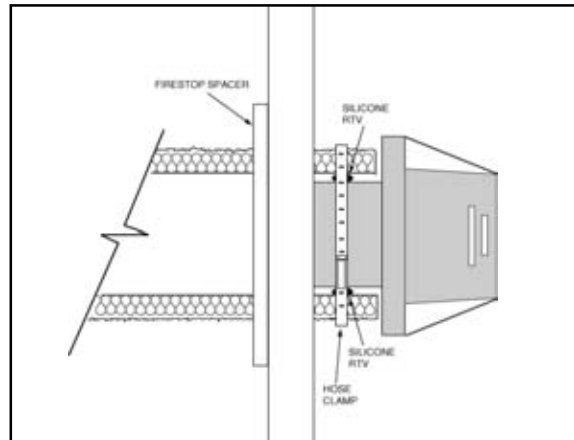
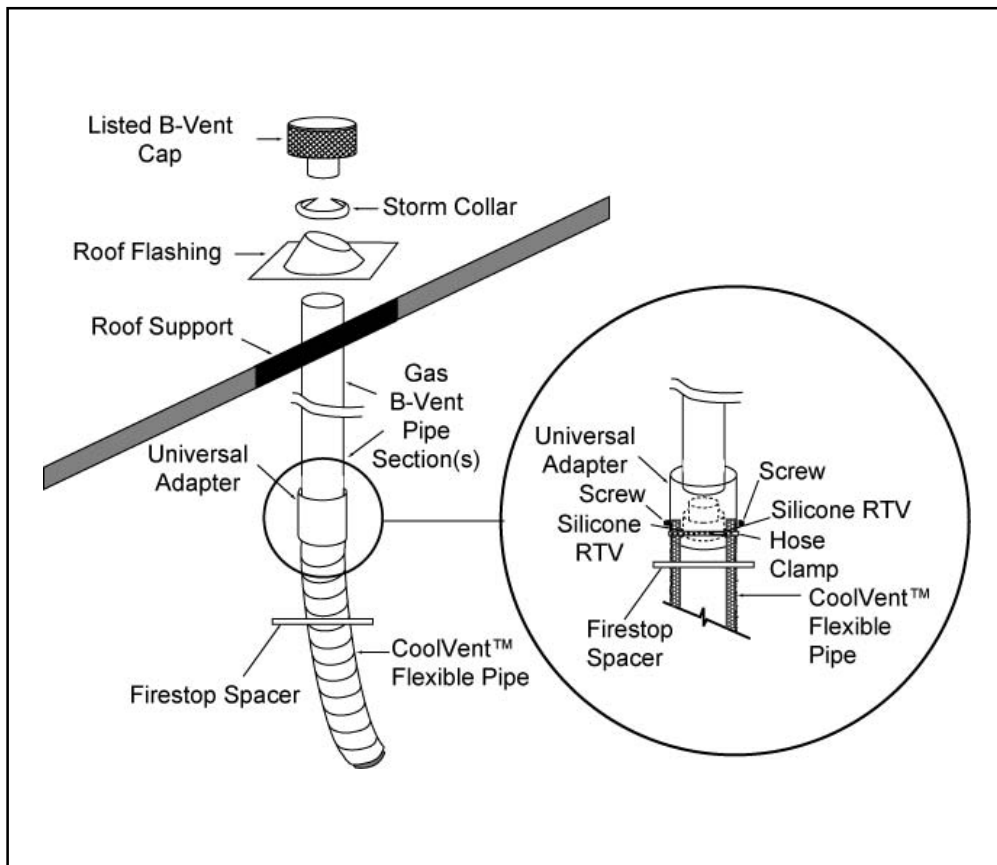

Figure 5
Figure 10
- d. Place a ½” bead of RTV in the receiving end of the appliance adapter and insert the end of the rigid B-Vent pipe. Secure the hose clamp to the pipe. Reference Figure 5 and inset in Figure 10 for RTV and hose clamp placement.
f. Typical Vertical Termination (see Figure 10)